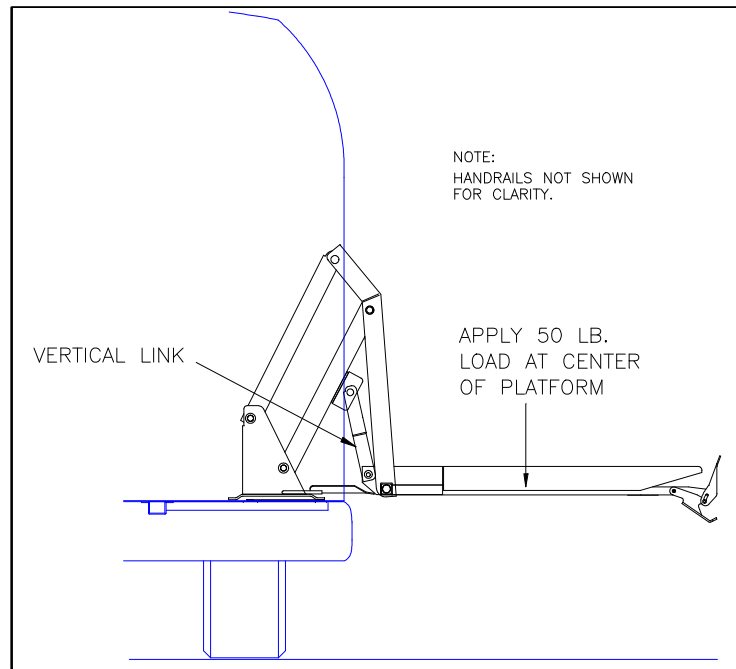

FIGURE 2-21: PRESSURE SWITCH TEST AT FLOOR LEVEL
- a. Refer to **Figure 2-21**. Deploy and lower platform to ground. Place a 50 lb. load in center of platform and then raise platform to floor level. Press and hold STOW switch.
- d. Refer to **Figure 2-21**. To verify proper load sensor switch operation, deploy and lower platform to ground. Place a 50 lb. load in center of platform and then raise platform to floor level. Press and hold STOW switch.